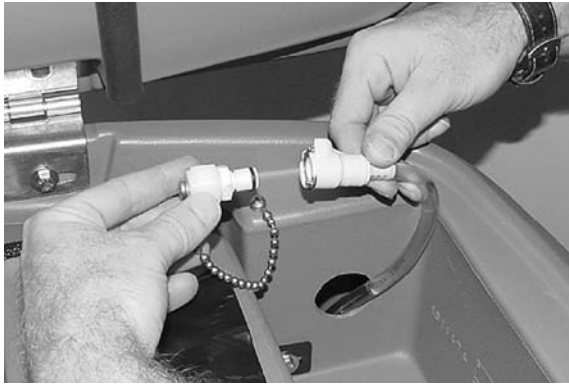

FIG. 80
7. When finished, connect the supply hose to the storage plug (Figure 80).